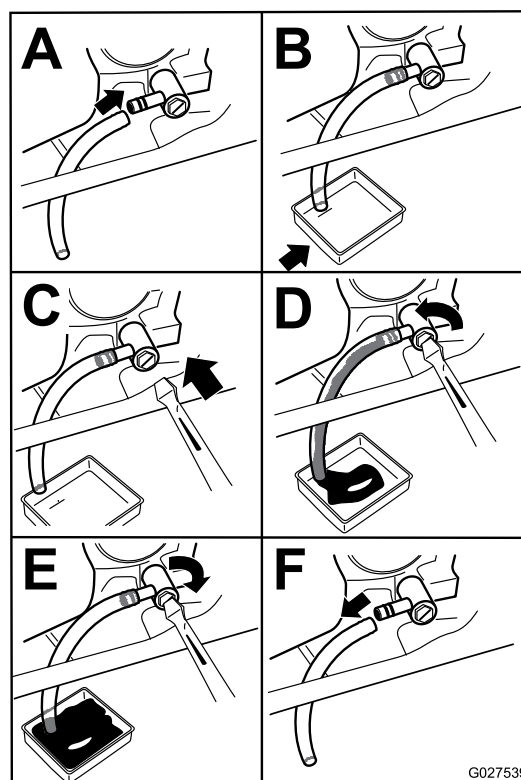

Figure 32
4. Drain the oil from the engine (Figure 32).